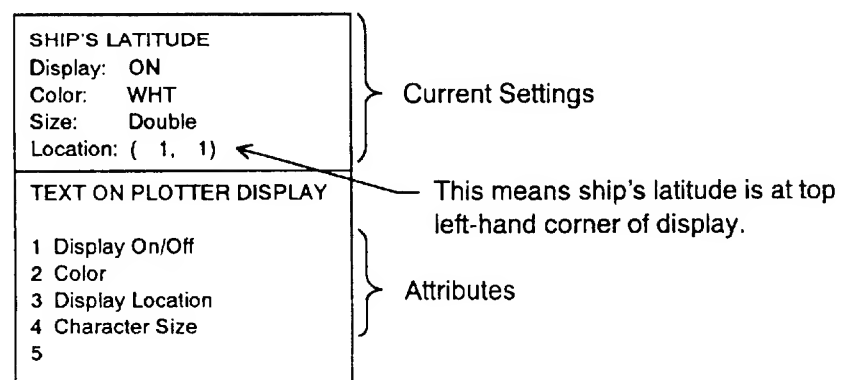

Figure 8-4 TEXT ON PLOTTER DISPLAY menu, ship's latitude
- 3) Select the text you want to change. For example, press **1** to select "Ship's Longitude" (on first page). The menu shown in Figure 8-4 appears.